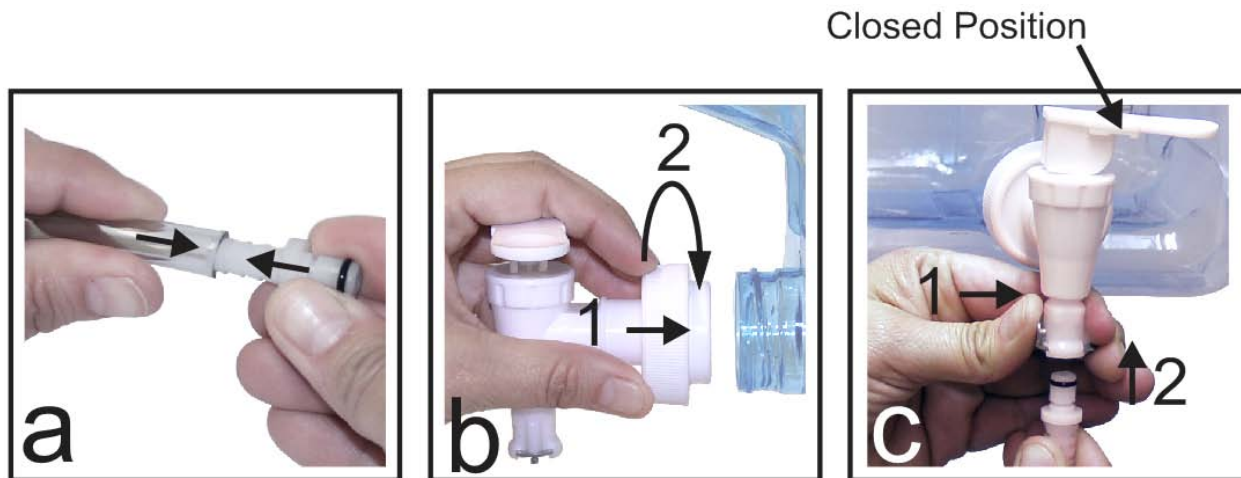
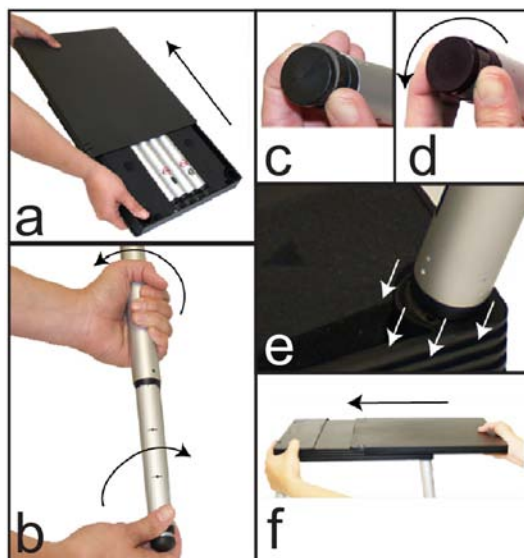

Fig. 8. Reservoir Assembly.
Fig. 9. Assembling Aardvark Table.
**Determine input and output of the RU.** The RU is completely symmetrical, so it is very important to install the RU right side up. (The Aardvark in the Logo should be “crawling out of the hole”). The RU input tube is towards the Aardvark head in logo (up). The input tube connects the RU to the Reservoir. The RU output tube is towards Aardvark’s tail in the logo (down). The RU output (Fig. 8) connects the RU to the APM. If, for any reason, the Aardvark Regulator logo cannot be clearly seen on the RU, there is a Branded “UP” sign on the top of the RU that can be used for proper orientation.
The Aardvark Permeameter Module is shipped completely assembled and ready to use (Fig. 9 left). The Aardvark Permeameter Module has three major parts: The Head Cap, The Body Tube and The Dispersive End Cap (Fig. 9, right).
On the top of the Head assembly there is a stainless metal U-Bolt (UB) for connecting to the Suspension Line (Measuring Tape) or Quick Link of the Pressure Regulator (Fig. 8). It is used for hanging and lowering the APM in a Borehole. The Quick Connection (QC) provides an easy and secure connection between the Head Assembly and Connecting Tubing (Fig. 9 right).